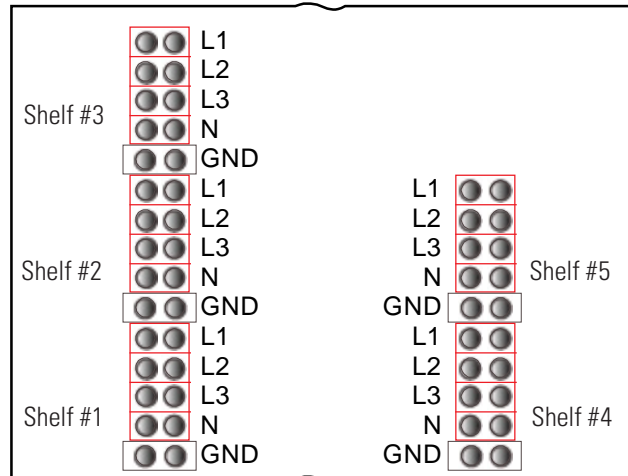

Figure 34: Terminal blocks for 5-feed, 3-wire 208 VAC input
2. Connect to the terminal blocks as shown in Figure 34. (Also clearly labeled on the panel.)